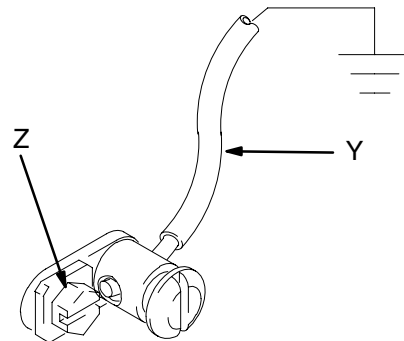

Fig. 2
To ground the pump, use a ground wire and clamp as shown below. Remove the ground screw (Z) and insert through the eye of ring terminal at end of ground wire (Y). Fasten the ground screw back onto the pump and tighten securely. Connect the other end of the ground wire to a true earth ground. See Fig. 2. *To order a ground wire and clamp, order Part No. 222011.*